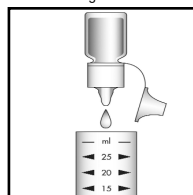

Figure 2
2. Add 2 drops of S-3900 Activator Solution (fig 2). Stir to mix the contents of the cup.